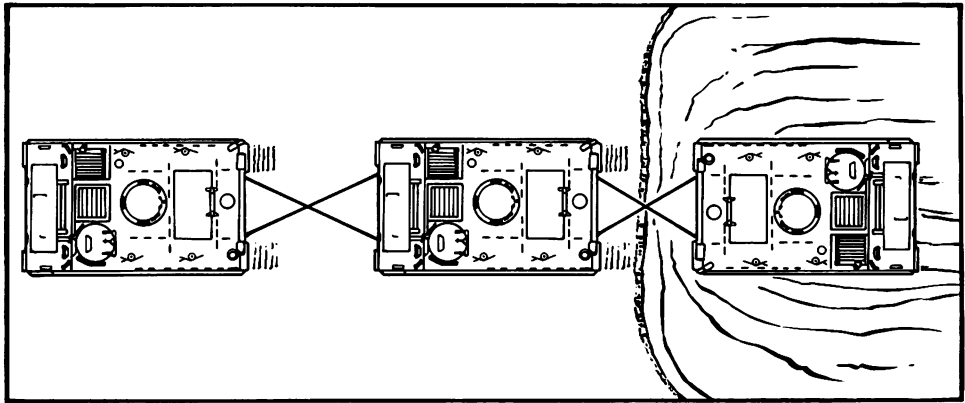

Figure 1. Towing mired APC, using two similar vehicles.
a. When two tow cables are used between two vehicles, the cables should be crossed. This prevents them from entangling in the tracks on turns and maintains alignment of the vehicles (figure 1). If a greater working distance between the pulling vehicle and a mired vehicle is required, two cables can be joined together by using tow hooks.
- (1) Position towing vehicle and shut off engine.
- (2) Attach tow cables to tow hooks at rear of towing vehicle.
- (3) Attach tow cables to tow hooks of mired vehicle.